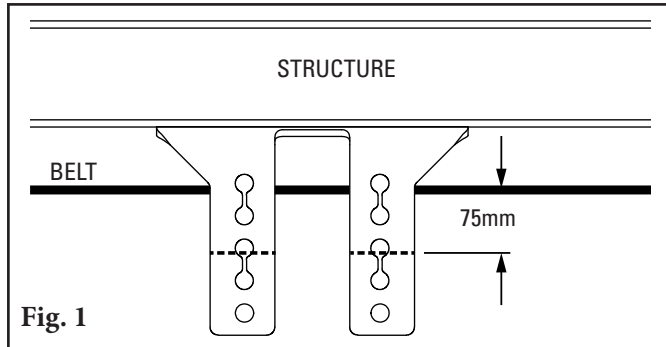

Fig. 1
- a. For push-up installation, use a straightedge to push up against the belt to remove the slack and make a mark on the bracket for the bottom of the belt. From that mark, measure down 75mm and make a second mark (Fig. 1). The second mark is where the centre of the pole should line up in Step 6.